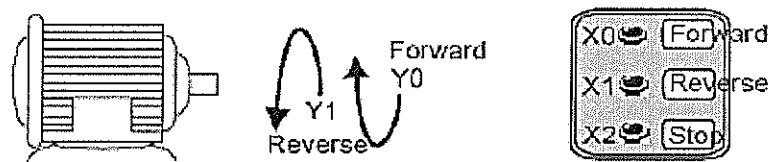

**Figure Q1.(a): Motor for Question 1(a)**
- (a) Design a programmable logic controller (PLC) ladder diagram to control forward and reverse running of the motor as shown in the **Figure Q1(a)** by using the Input/Output assignment as shown in **Table Q1(a)**.